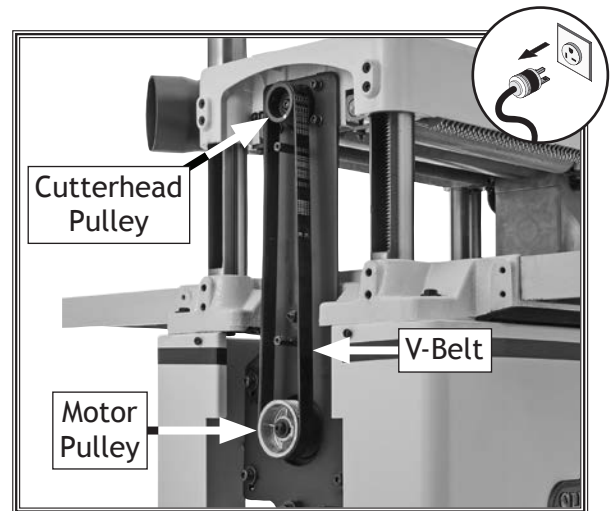

Figure 39. Belt cover and side panel removed to expose V-belt and pulleys.
2. Remove side panel and belt cover from left side of machine to expose belt and pulleys, as shown in **Figure 39**.